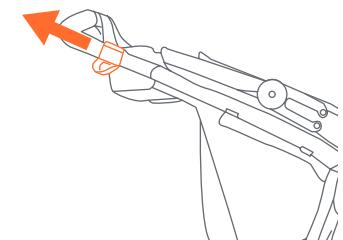
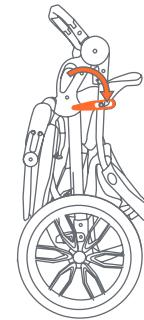

Fig. 19a
Fig. 19b
• Fold the stroller by pulling both release triggers (Fig. 19a). Press downward on the stroller handle until the stroller is completely folded. Lock the release lever on the right side of the stroller (Fig. 19b).